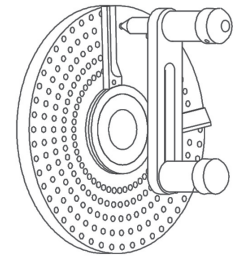

Fig. 2C
3. Rotate sector clockwise so that first arm is against plunger assembly as in Figure 2C.